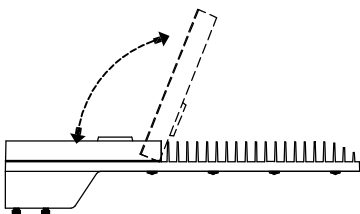

Fig. 2
- Swing the Cover forward till it locks to position. (Fig. 2).